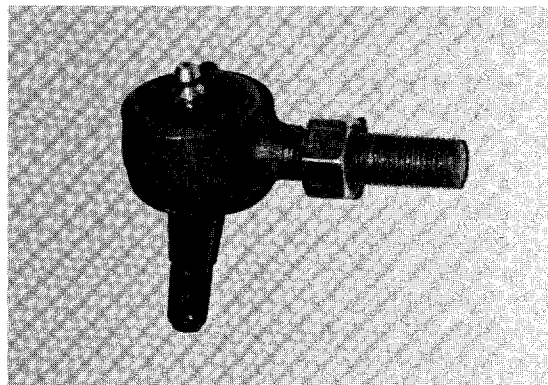

Figure 12-8
1. Remove ball joint (13) and check for excessive wear (Figure 12-8).
2. Remove drag link (17).
3. Remove both bellows clamps (4).
4. Remove hex nut (11) and slide dust seal bellows (35) off.
5. Remove hex nut (31) and washer (32) and slide dust seal bellows (5) off.
6. Remove the rack guide screw (21), rack screw locknut (22), rack guide pressure spring (23) and the rack guide (24).
7. Remove the universal joint assembly from pinion (27) by fully removing the bolt and sliding universal joint off.